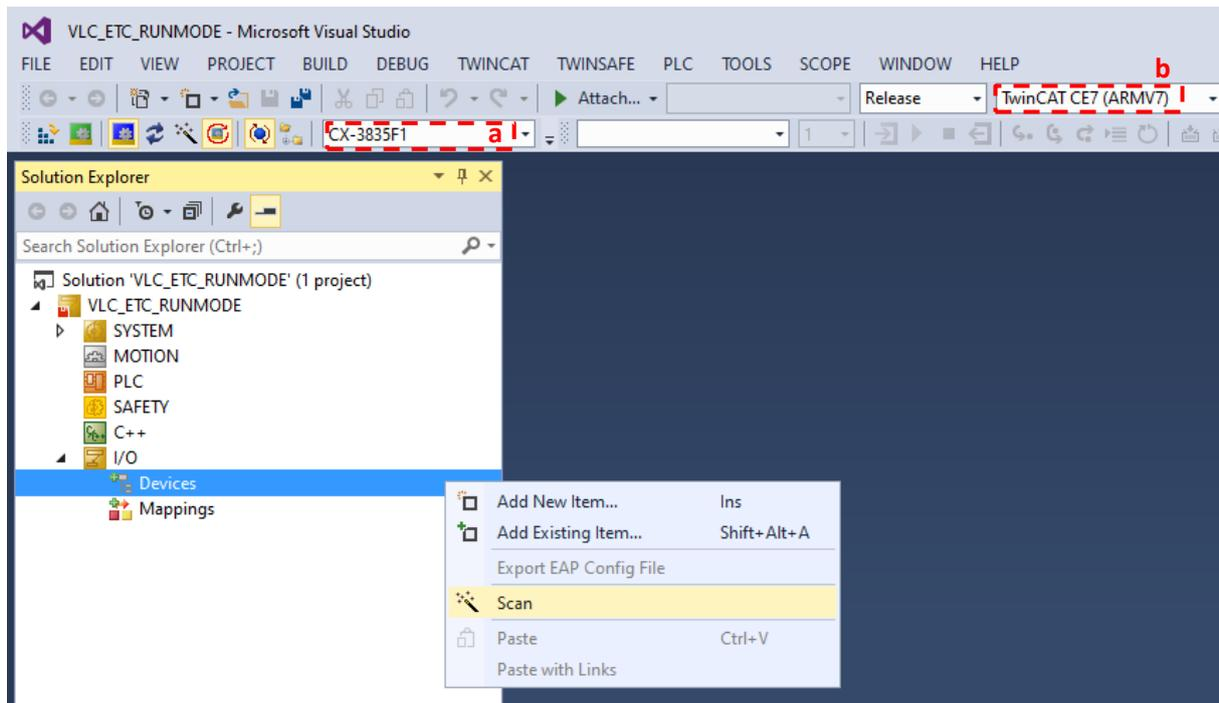

Figure 3.6.
- Start a new TwinCAT project, select the target system according to the name of the Beckhoff embedded/industrial PC being connected in rectangle **a** in Figure 3.6. More information on how to make the connection between TwinCAT and the embedded PC is in the Beckhoff's manual. Also, in rectangle **b**, select TwinCAT version corresponding to the embedded PC being used.